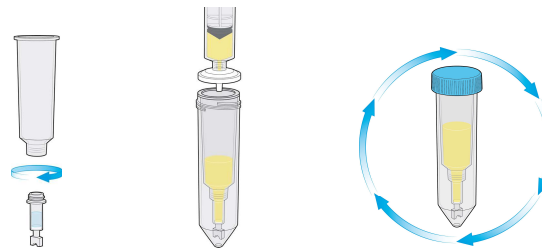

Figure 1. Assembling of Anti-EPO gel columns and funnel.
2. Assemble the Anti EPO gel column containing affinity resin with the Funnel F20 and put it into a 50 mL conical centrifuge tube as illustrated in Fig.1.